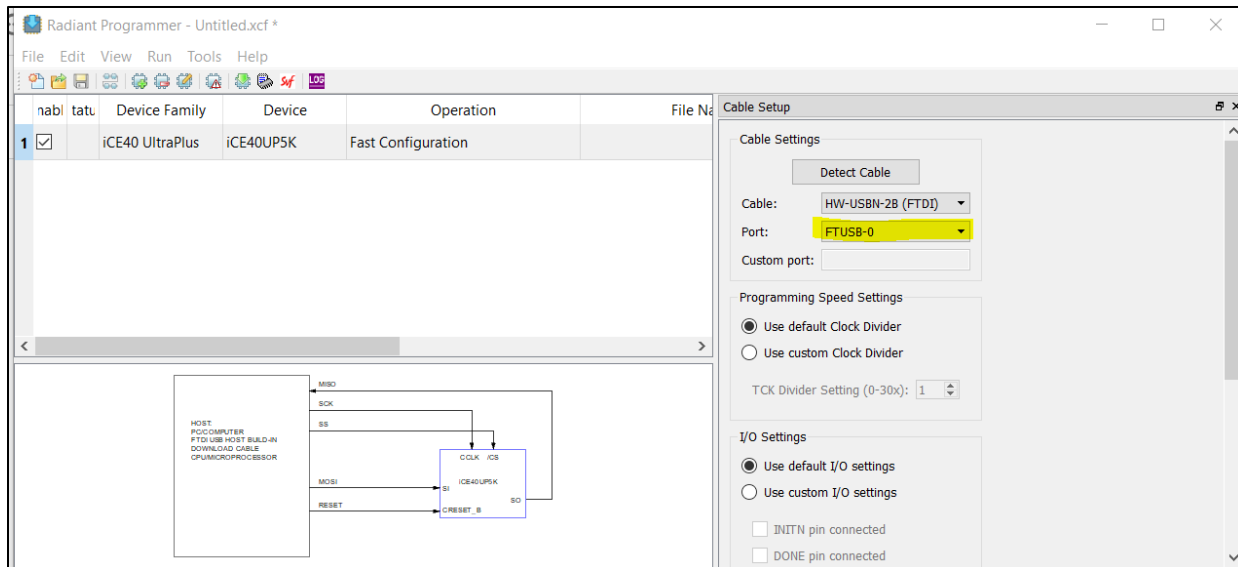

Figure 8.2. Port Setting in Lattice Radiant Programmer Software
- In Lattice Radiant Programmer, under **Cable Settings**, choose the correct Port accordingly, as shown in Figure 8.2.